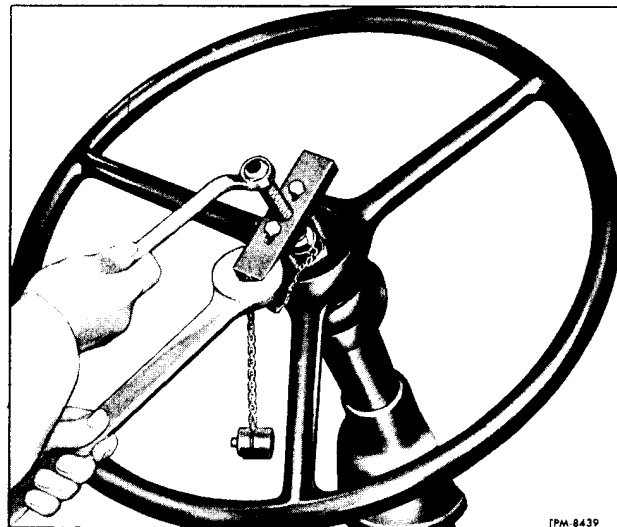

Figure 4—Removing Steering Wheel
2. Remove steering wheel retaining nut (7).
3. Puller screw holes are provided in wheel hub. Using steering wheel puller (J-2927-01) and two puller screws with 17/64" diameter, pull steering wheel off shaft (fig. 4).